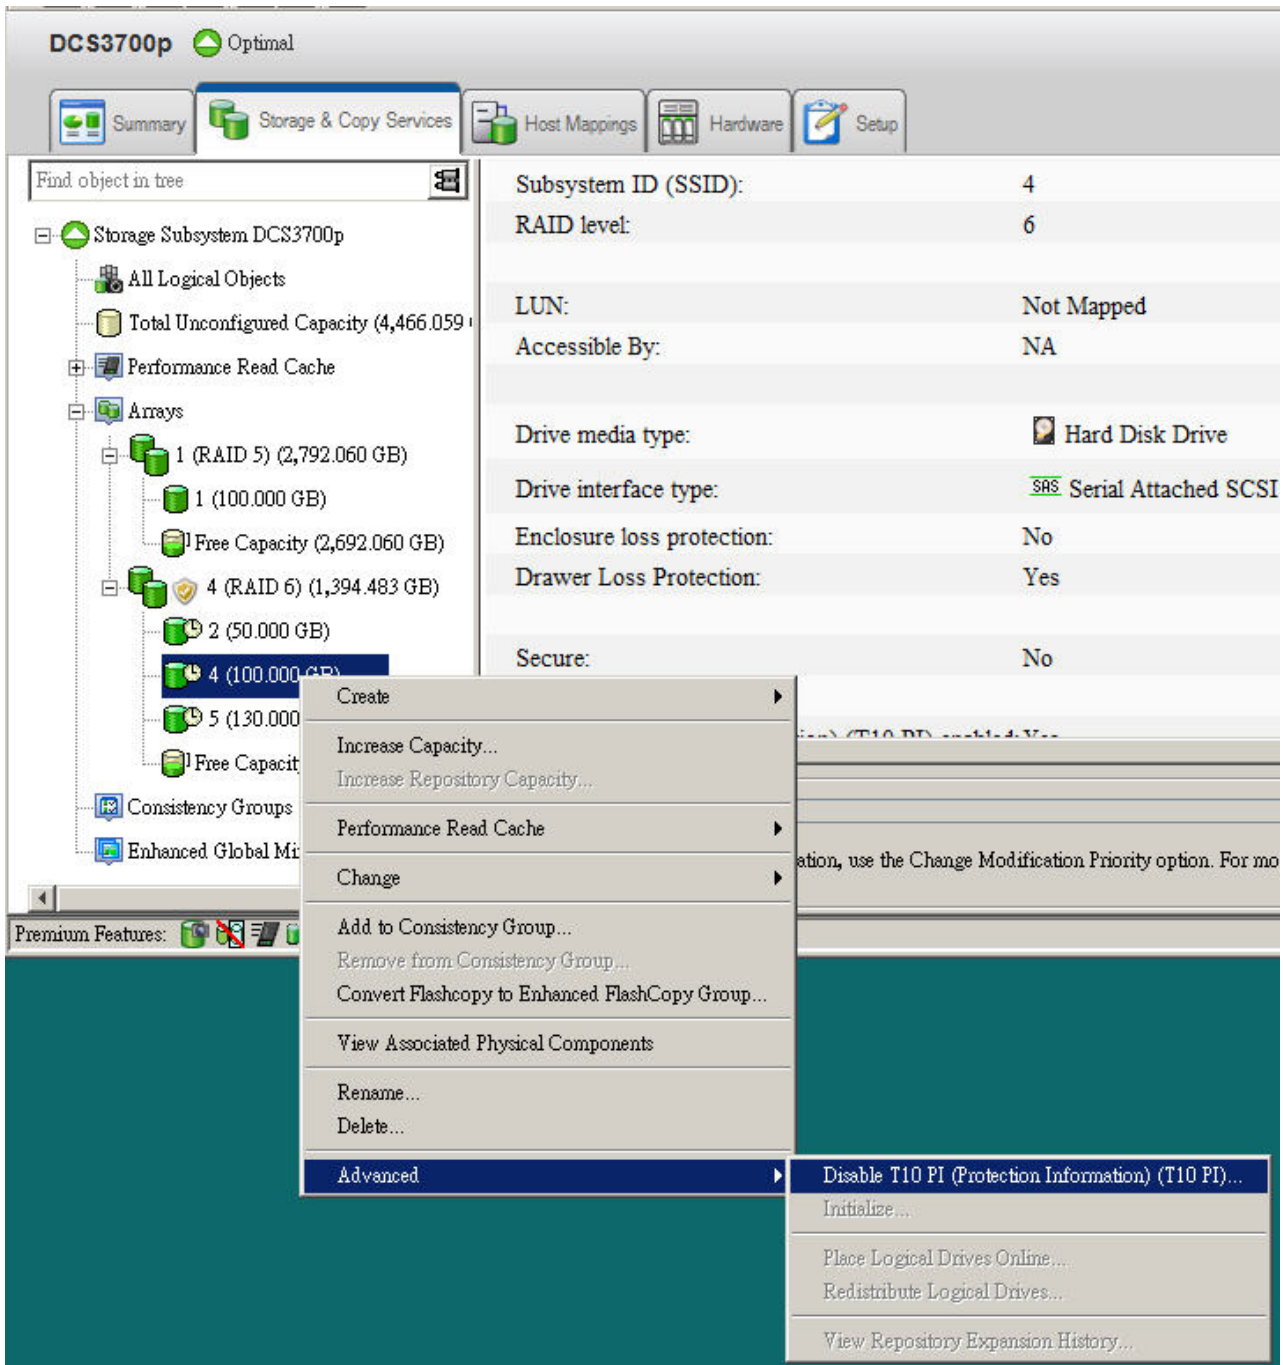

Figure 8. Disabling T10PI
- Right-click the drive that you are disabling T10PI capability and select **Disable T10PI (Protection Information) (T10PI)** as shown in Figure 8 on page 64.